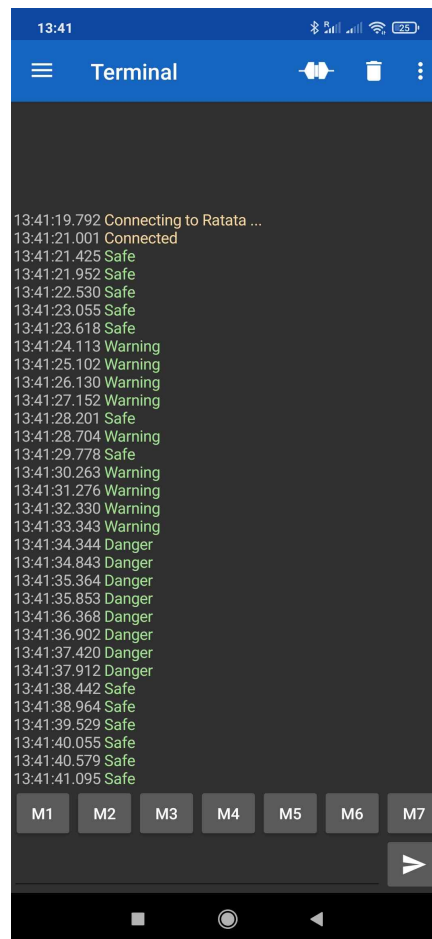

Figure 10.3: Reading Data via App
- You should see updates (distance values, alarm states) in the phone app console, as shown in Figure 10.3.